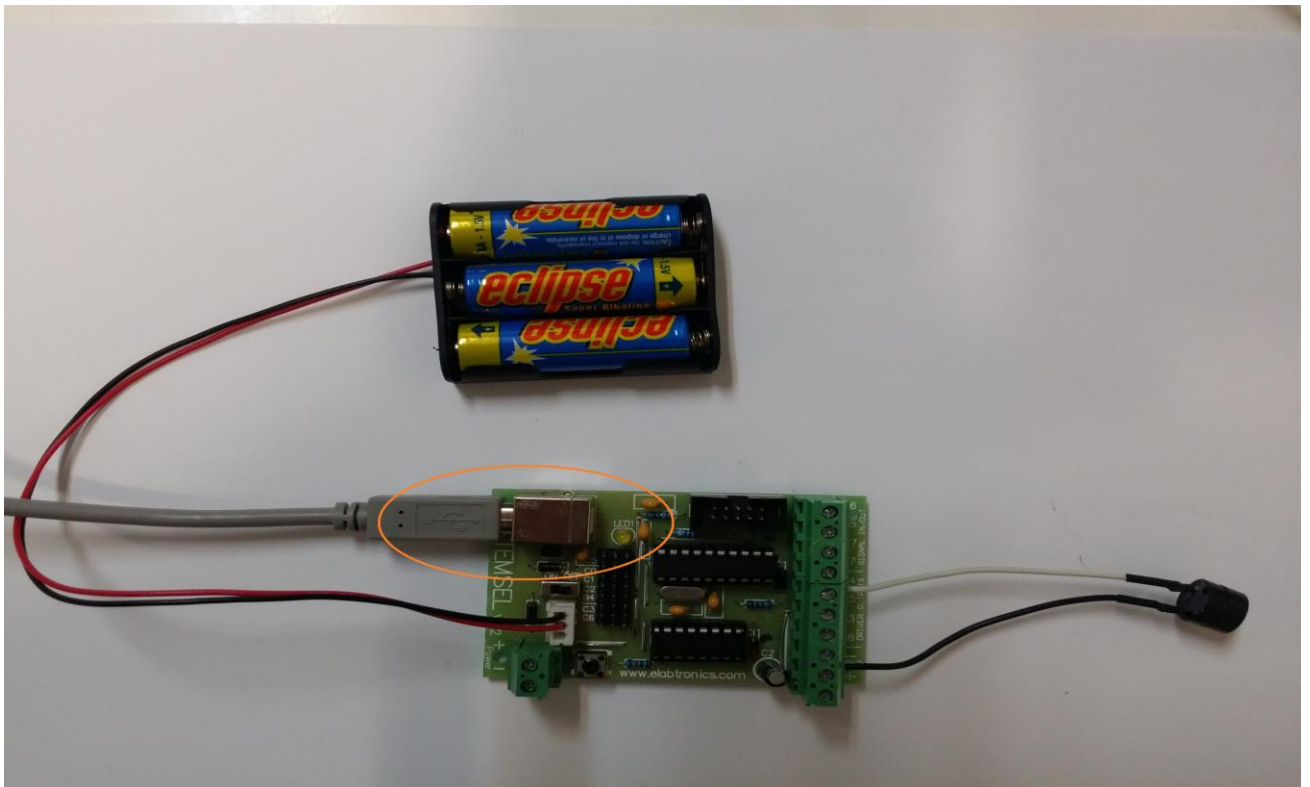

Figure2.3
- c. Connect the programming cable to your STEMSEL controller board as shown on Figure 2.3 below. Do not connect the other end for now.